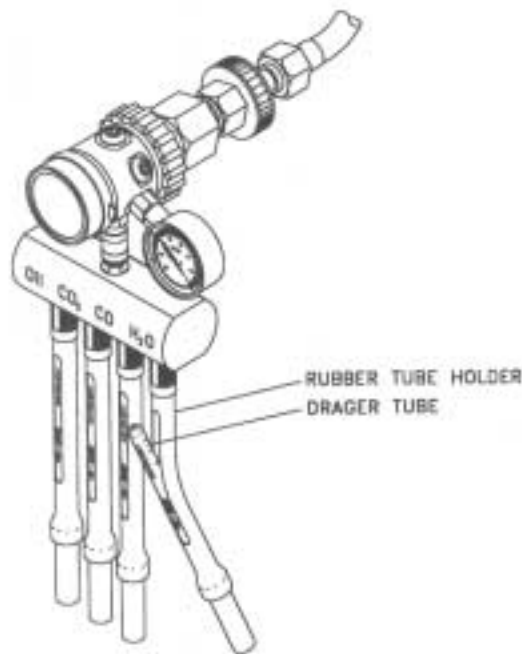

Figure 2. Air Test Kit with Dräger Tube Inserted
b. Insert tubes into tube holders of measuring device at the space marked for each appropriate tube. Flow arrow on tubes must point away from the measuring device. Refer to Figure 2.